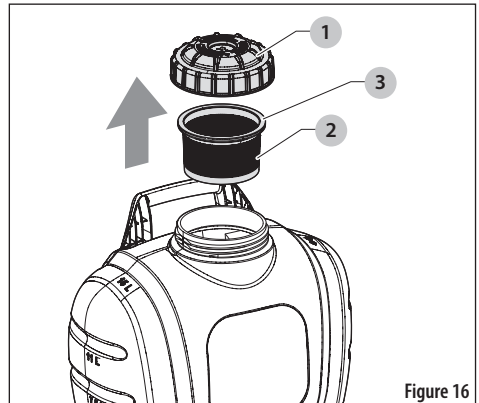

Figure 16
- Check the cap (1) and the filter basket gasket (3) on the filter basket (2) to ensure they do not show signs of wear and are operating properly. See Figure 16.